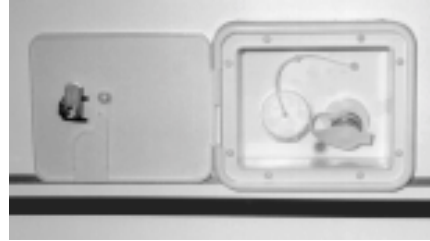

Fig. 4-1
2. A ten gallon (or larger) water tank may be permanently installed in your camper. To fill the tank, open the lid as shown. (Fig. 4-1) Insert or hold the water hose and fill to the desired capacity. The tank has an overflow outlet, but care must be taken to not overfill it.